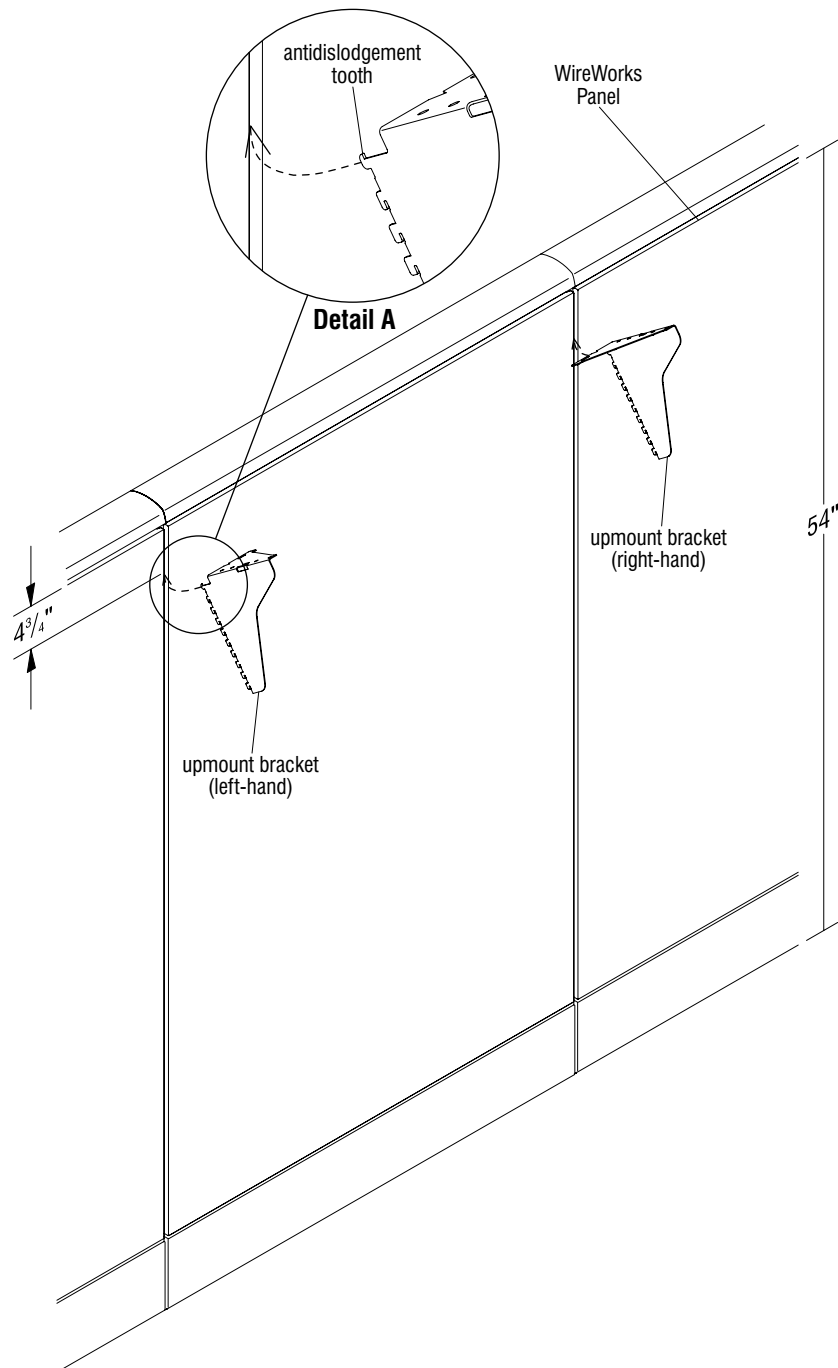

Figure 5
1. Position brackets on a 54" high WireWorks panel with the top tooth (antidislodgement) engaged in the sixth slot from the top of the uppermost tile so there is a  $4\frac{3}{4}$ " space between the top of the tile and the top of the bracket. This will position the bottom of the balance cabinet at 20" above a 29" high worksurface (Figure 5).